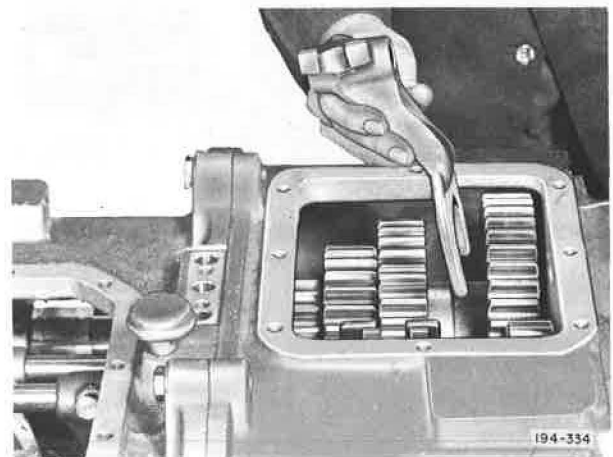

Figure 5-114. Installing Fourth and Fifth Speed Shifter Fork
30. Start fourth and fifth speed shifter rail in hole provided in front of case. Engage fourth and fifth speed fork with fourth and fifth speed sliding clutch. See Figure 5-114.